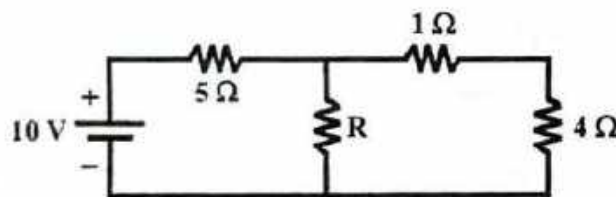

Figure 1 (See Unit-I, Page 14, Prob.3)
2. (a) What is the value of unknown resistor R if the voltage drop across the 4Ω resistor is 2V for the circuit shown in figure 1.